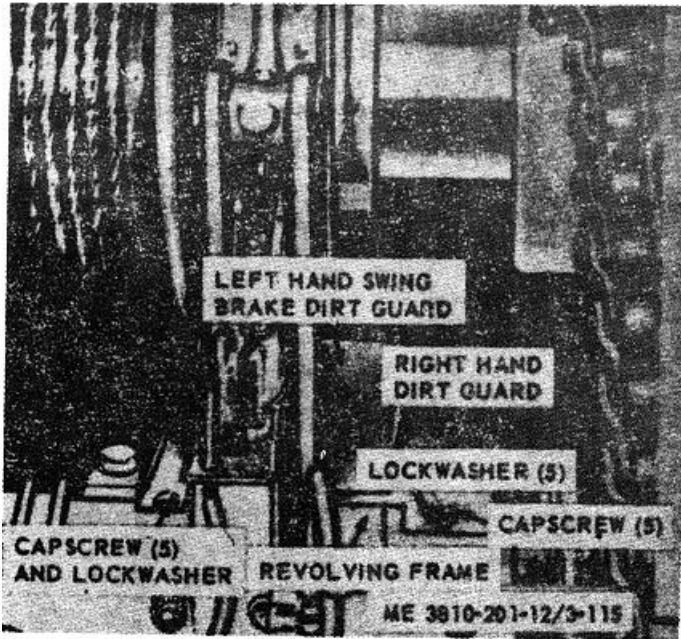

Figure 3-102. Swing brake dirt guard, removal and installation.
a. *Swing Brake Dirt Guard Removal and Installation.* Refer to figure 3-102 and remove swing brake dirt guard. Install in reverse order.